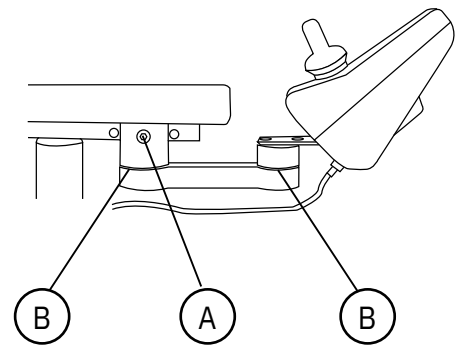

Figure 5.1. Control arm.
The control arm is adjustable in depth (A) and has adjustable resistance in joints (B), see Figure 5.1.